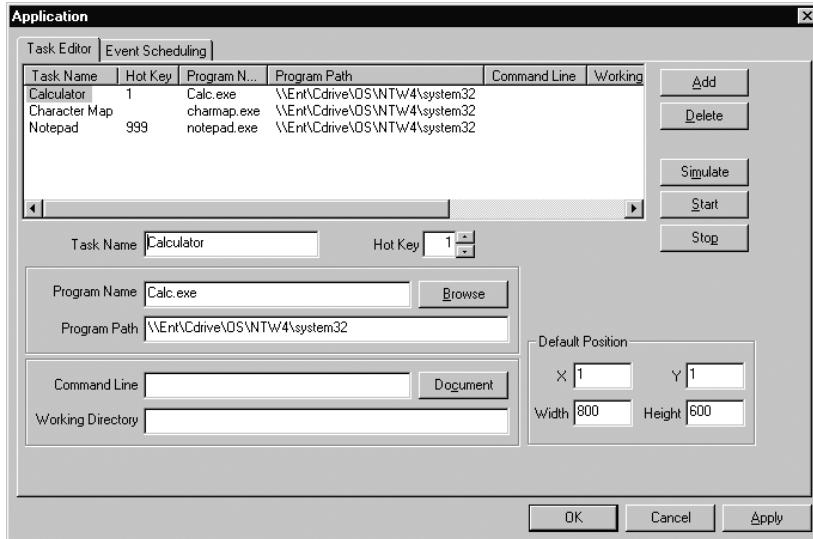

Figure 7.12. Default Application Window: Task Editor
- 1) In the main *WallManager* window, click **Configure** \Rightarrow **Application...** The Application window will appear—by default, the Task Editor will also be present. (Figure 7.12.)